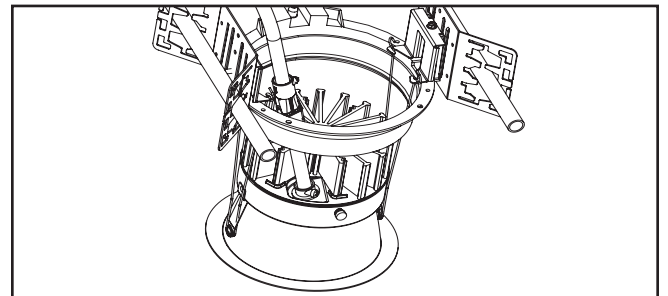

Figure 11.
8. Install the LED engine and trim assembly by inserting the torsion springs into the spring receivers located inside the housing (Figure 11.).